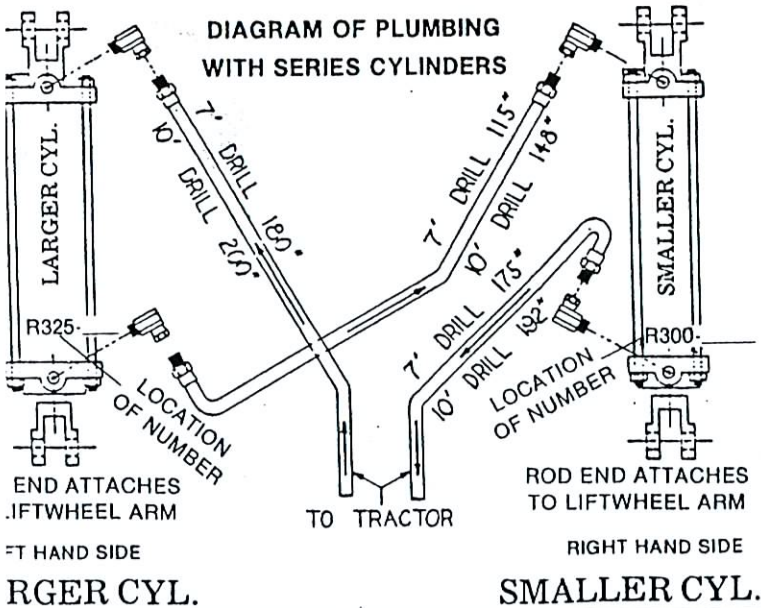

Figure A-4
12. Install elbows and hydraulic hoses to cylinders and plumb per Figure A-4.